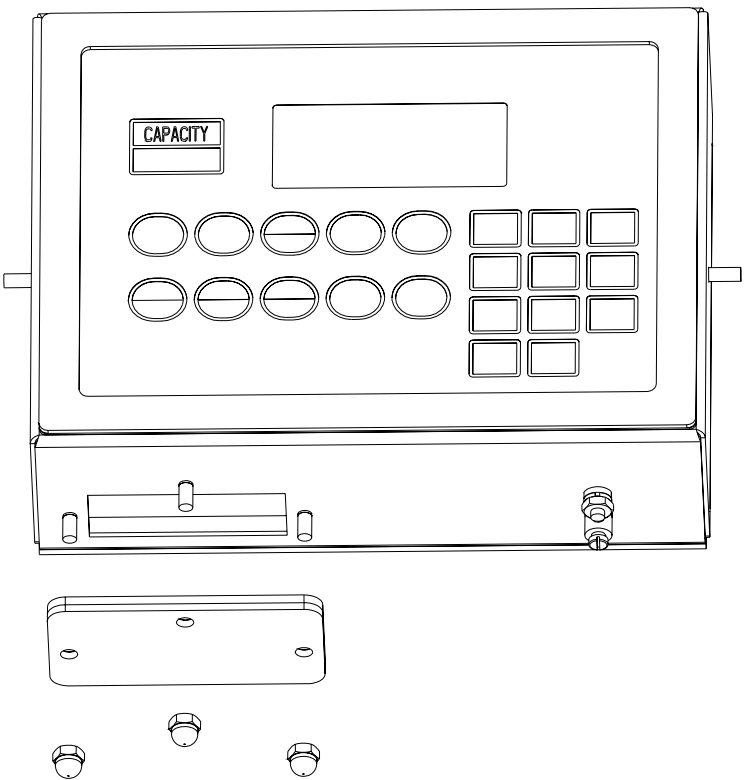

Figure No. 11
The 205/210 indicators can operate from a Sealed Lead-Acid Camcorder type battery (*not included*). If you wish to operate the indicator from a battery, you must first obtain and install a CAM-350 Type, 12 volt, 2000 mAh (2.0 Ah) battery before operation can begin. The battery is contained inside the instrument and is easy to install. Access is via a removable panel on the bottom of the indicator (See Figure No. 11). The battery can be purchased from the Cardinal Scale Parts Department (p/n 6800-0018).
2. Referring to Figure No. 11, remove the three acorn nuts securing the Battery Access Cover to the bottom of the indicator, then remove the cover exposing the battery access opening.
2. Referring to Figure No. 11, remove the three acorn nuts securing the Battery Access Cover to the bottom of the indicator.